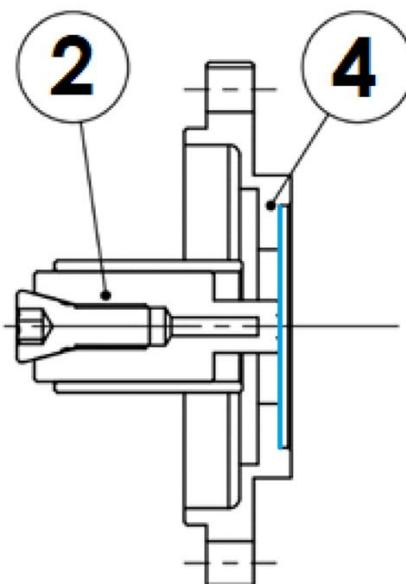

Figure 4: Magnet alignment
5. Align the encoder magnet set (2) to the sensor mounting flange (see *Figure 4*, highlighted in blue) of the encoder bracket (4).